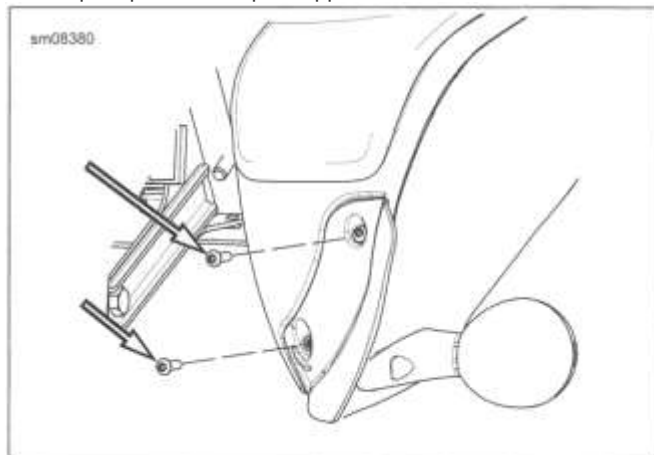

Figure 3-135. Air Deflector (right side shown)
1. See Figure 3-135. Remove two screws.
1. See Figure 3-135. Install two screws to fasten air deflector at side of inner fairing. Alternately tighten screws.